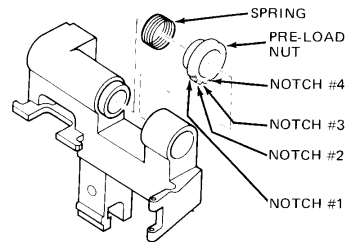

FIGURE 8 CARRIAGE ASSEMBLY
- d. Loosen (2) screws and swing clamp down to allow withdrawal of motor.
- h. If installing a new carriage, set the pre-load nut in the #2 notch. Reference Figure 8.